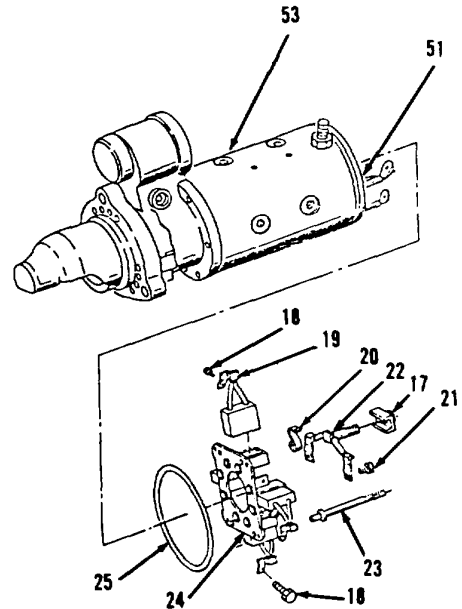

Figure 4-73.
9. Remove bushing (17) from terminal stud (22, Figure 4-73).
10. Remove four screws (18).
11. Disconnect four brushes (19) wire assemblies.
12. Disconnect two field coil (51) wire assemblies.
13. Lift four springs (20) with suitable hook to remove four brushes (19).
14. Remove four brushes (19).
15. Remove four springs (20).
16. Remove two screws (21) and terminal stud (22).